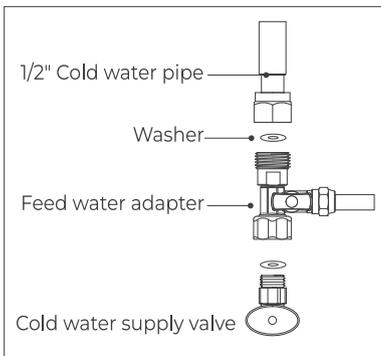

Figure 5
3. Twist the feed water adapter onto the cold water supply valve (with its washer) and tighten it with an adjustable wrench (**Figure 5**).